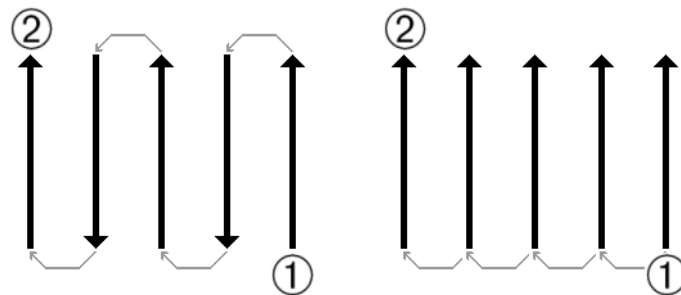

Figure 63: Given manner
Figure 63 shows all different ways of scanning in a scheme. The measurement starts at your starting point ① and ends at point ②.